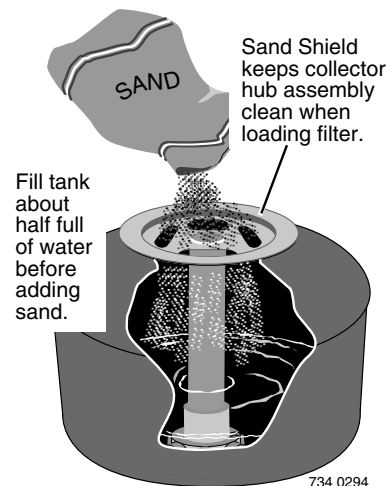

Figure 5
1. To keep sand out of collector assembly, place plastic sand shield over top of collector tube before pouring sand into filter (See Figure 5).